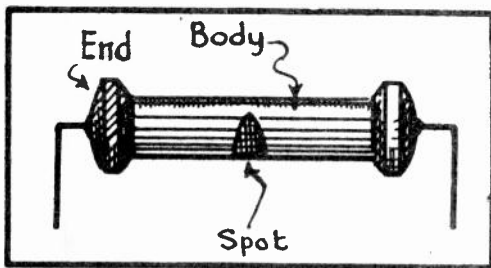

Fig. 1
1. - FIG. 1 SHOWS YOU THE CUSTOMARY MANNER IN WHICH FIXED RESISTORS ARE COLORED. AS YOU WILL OBSERVE, THE BODY OF THE RESISTOR IS PAINTED ONE COLOR, THE END OF THE RESISTOR ANOTHER COLOR AND A THIRD COLOR IS ADDED IN THE FORM OF A SPOT OR BAND AT THE CENTER OF THE BODY.